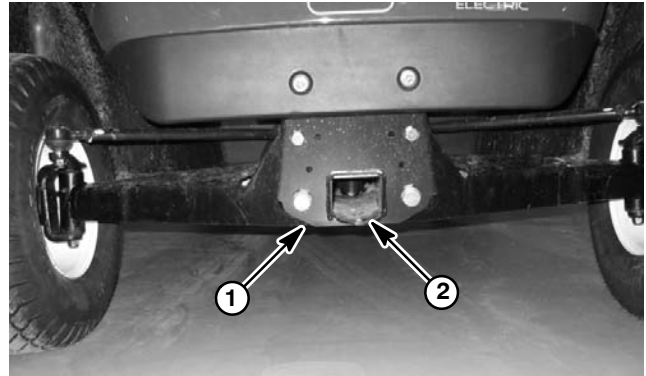

Figure 1
1. Jack front of the vehicle on the front of the frame behind the towing tongue (Fig. 1).